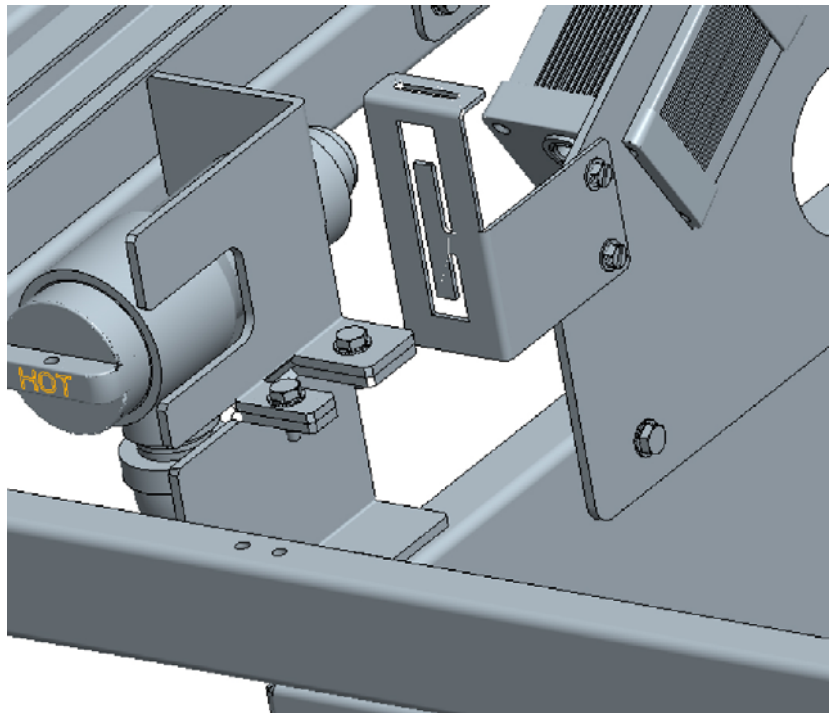

Figure 9: Position the pre-filter (as shown above). The pre-filter wrench holder mounts on the sensor bracket as shown.
11. Position prefilter in cabinet (as shown). **see figure 9.**
13. Mount the filter wrench holder and wrench. The position is relative to the cabinet configuration. **See figure 9.**